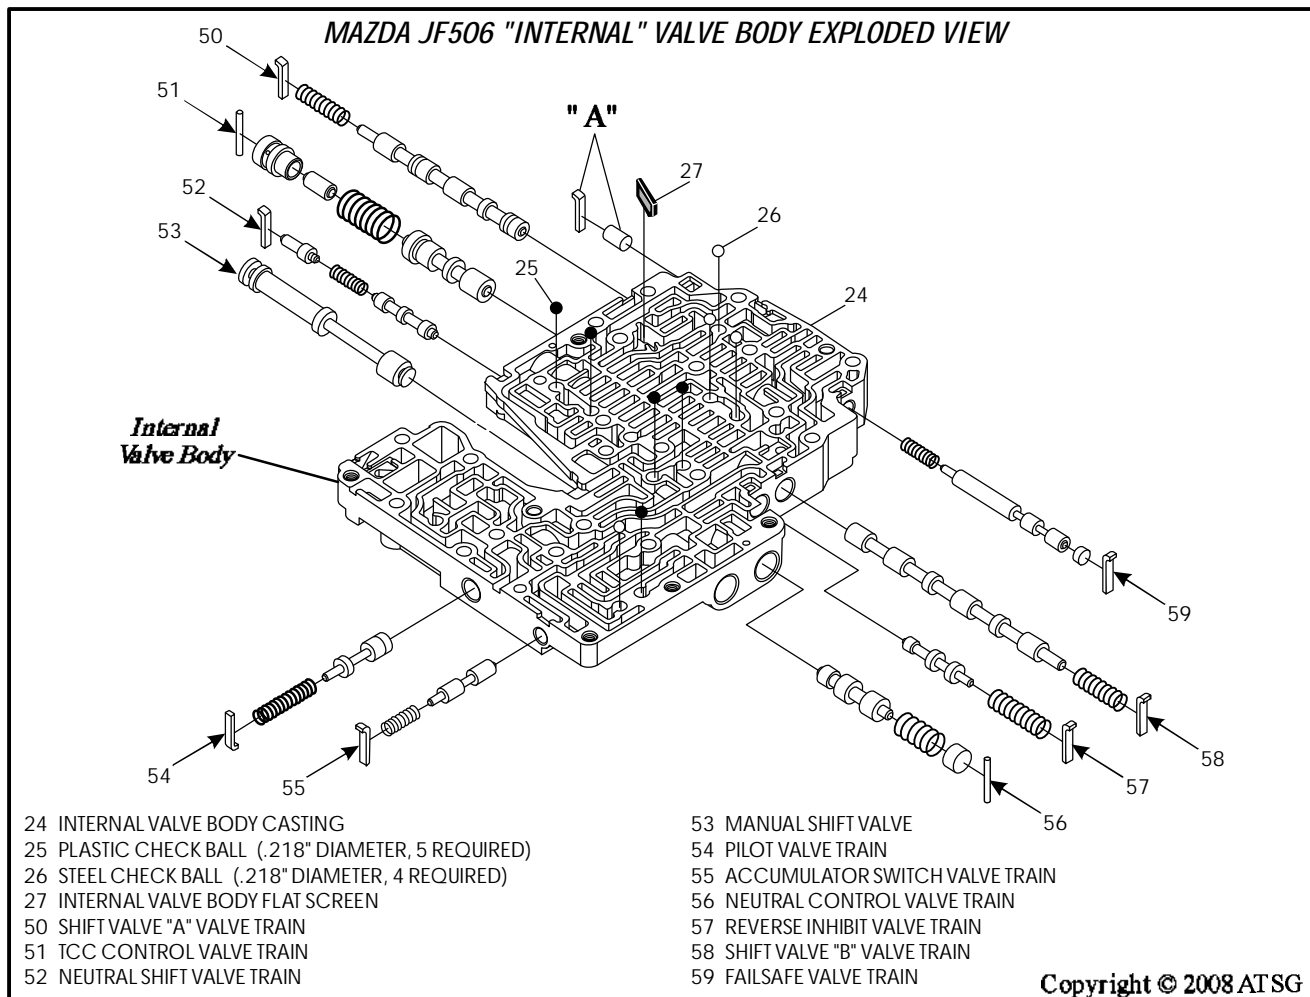

Figure 166
22. Disassemble the internal valve body, as shown in Figure 166, and place valves, bore plugs and retainers in appropriate trays exactly as they were removed from casting.
**Note:** *There is no need to remove the bore plug and retainer identified with an "A" in Figure 166, as the valve is removed from opposite side.*
24. Assemble internal valve body parts exactly as they are shown in Figure 166, and lube with the proper ATF as they are installed.
**Note:** *Install the retainers exactly as shown in Figure 166, as they install in different directions through out the valve body.*
25. Install the flat valve body screen into position, as shown in Figure 166.
26. Install the manual valve into the internal valve body in the direction shown in Figure 166.